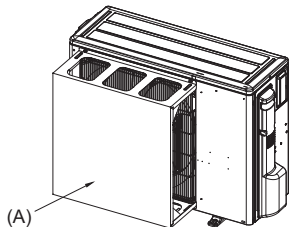
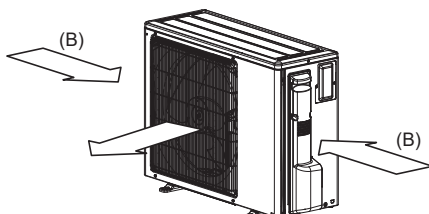

Fig. 2-5
Fig. 2-6
- (2) Install an optional air protection guide if the unit is installed in a location where strong winds from a typhoon, etc. may directly enter the air outlet. (Fig. 2-5)
- (A) Air protection guide
- (3) Position the unit so that the air outlet blows perpendicularly to the seasonal wind direction, if possible. (Fig. 2-6)
- (B) Wind direction